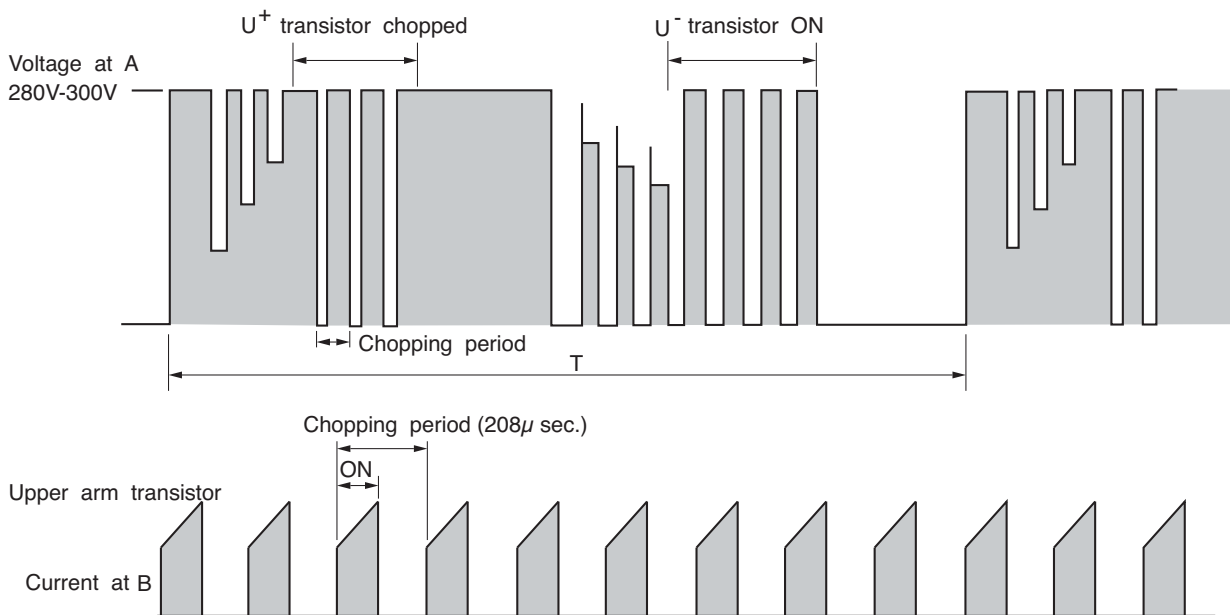

Fig. 4-3 Voltage waveform at each point
Fig. 4-3 shows voltage waveform at each point shown in Figs. 4-1 and 4-4. First half of upper arm is chopper, second half is ON, and first half of lower arm is chopper, second half is ON.
Since current flows at point (B) only when U^+ transistor and V^- transistor is ON, the current waveform at point (B) becomes intermittent waveform as shown in Fig.4-3. Since current at point (B) is approximately proportional to the input current of the air conditioner, input current is controlled by using DC current (I_d) detection resistor.